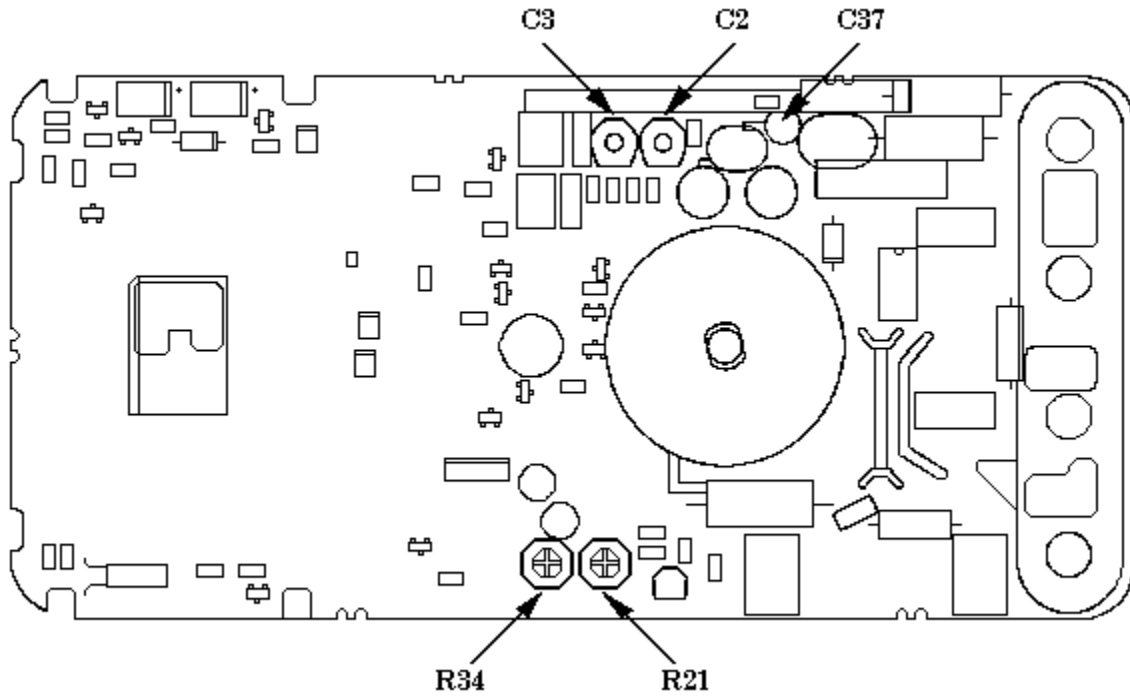

Figure 1. Adjustment locations.
- (1) Set function switch to $V_{\text{---}}$.
- (2) Set calibrator for an output of 3.900 V dc.
- (3) Adjust R21 (fig. 1) until TI indicates 3.900 V dc (R).
- (4) Repeat a (1) through (4) above.
(1) Set calibrator for an output of 3.513 V at a frequency of 50 Hz.
(2) Adjust R34 (fig. 1) until TI indicates 3.500 V ac (R).
(3) Change calibrator output amplitude to 100.0 V at a frequency of 20 k Hz.
(4) Adjust C37 (fig. 1) until TI indicates 100.0 V ac (R).
(5) Change calibrator output amplitude to 3.500 V at a frequency of 10 kHz.
- (6) Adjust C2 (fig. 1) until TI indicates 3.500 V ac (R).
- (7) Change calibrator output amplitude to 35.00 V at a frequency of 10 kHz.
- (8) Adjust C3 (fig. 1) until TI indicates 35.00 V ac (R).